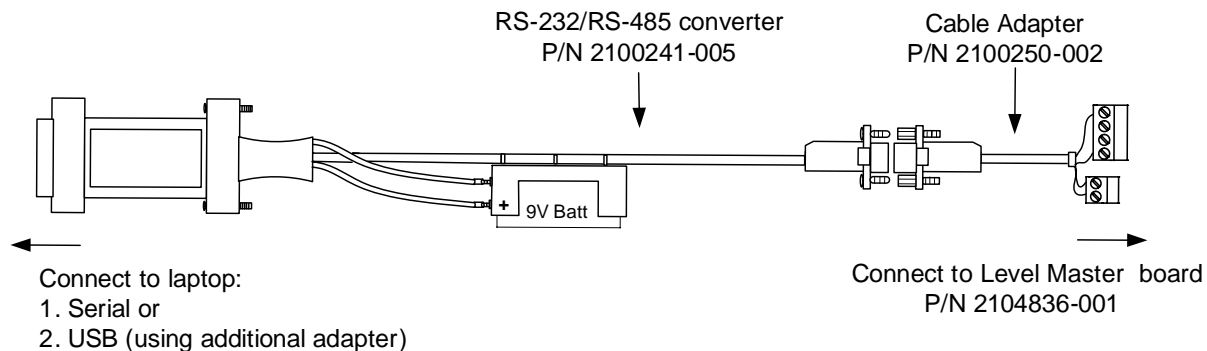

Figure 36: Cable and adapters for local communications (2104836-001 boards)
- a. For boards part number 2104836-001, connect the RS-485-to-RS-232 converter (2100241 – 005) to the cable adapter (2100250 – 002), the cable with two separate terminal connectors at one end (Figure 36).